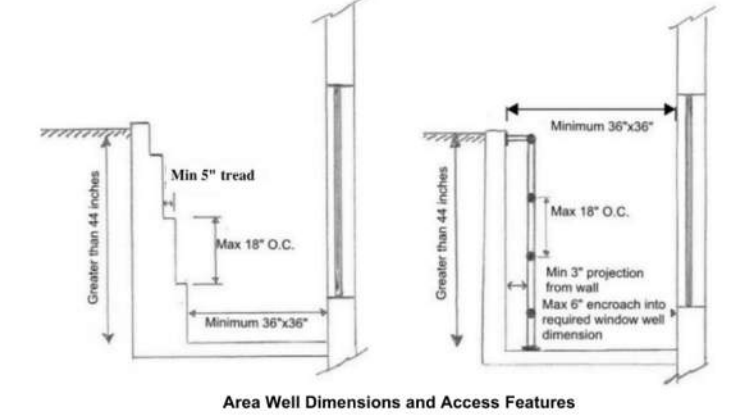

Figure 2: Area Well Dimensions and Access Features
- 1. Operable windows with openings that, when in their largest opened position, will not allow the passage of a 4-inch sphere (see Figure 2).
- 2. Operable windows that are provided with opening control or fall prevention devices that comply with ASTM F 2090 (see Figure 2) (IBC 1015.6.1.1)
- 3. In dwelling units regulated by the IBC where the sill height of an operable window above exterior finished grade is more than 75 feet, provide window fall prevention devices complying with ASTM F 2090 (see Figure 2).